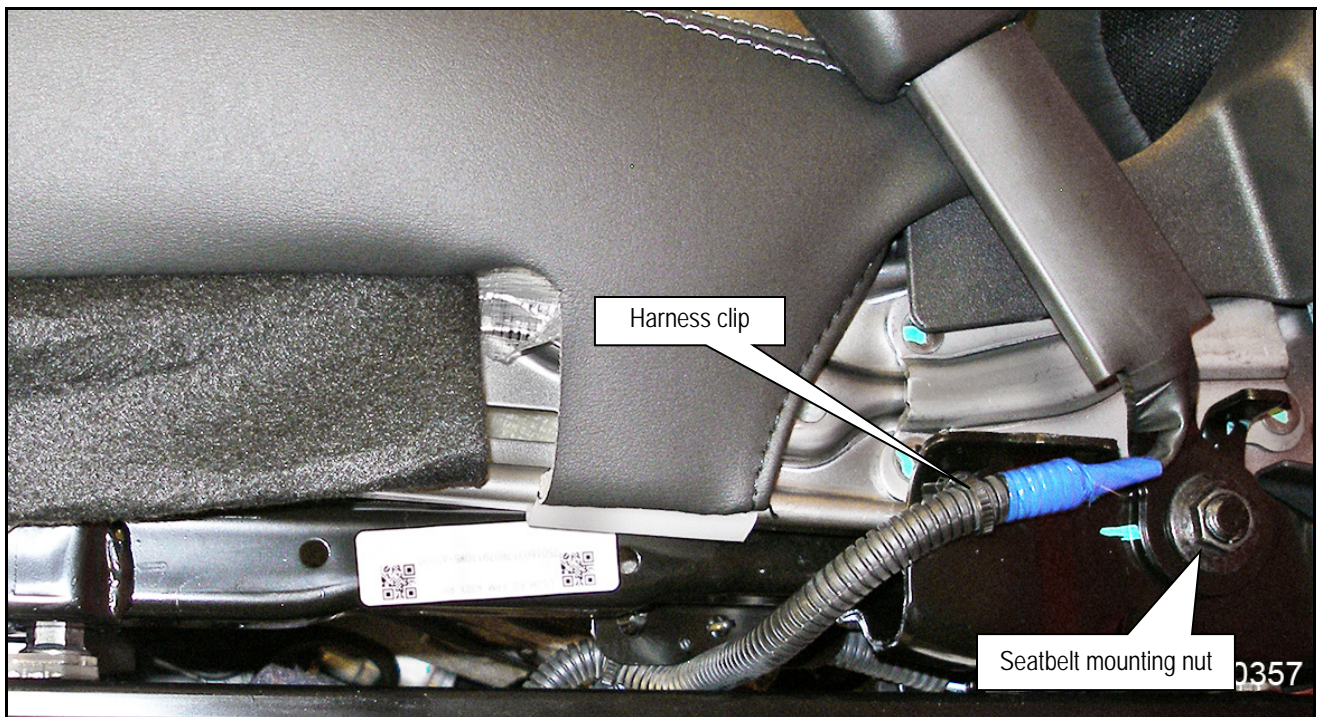

Figure 10
27. Install the new seat belt buckle (see Figure 10).
28. Route the new seat belt buckle harness as shown in Figure 10.
- Install only harness clip shown in Figure 10.